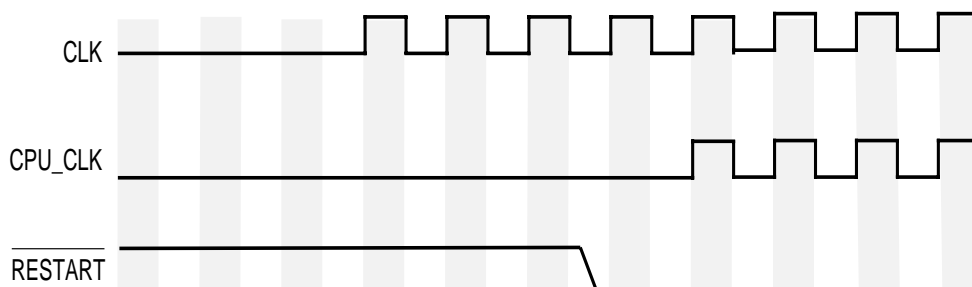

Figure 6. MC68SEC000 Clock Start Timing
3. Assert the $\overline{\text{RESTART}}$ signal. This will cause the processor's clock to start on the next falling edge of the system clock. Figure 6 shows the timing for bringing the processor out of the low-power mode. Both the $\overline{\text{RESTART}}$ and $\overline{\text{RESET}}$ signals are subject to the asynchronous setup time as specified in the Electrical Characteristics section of this addendum.